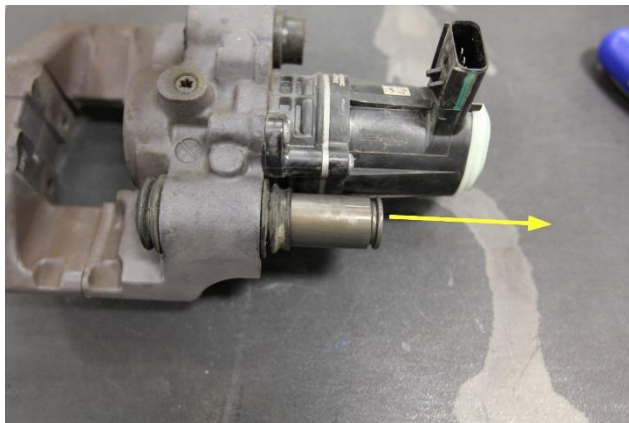

Figure 24
34. Move the lower sliding pin back into the LH parking brake caliper, use a pick or tiny screwdriver to release the inner boot of the lower sliding pin, and then move the pin partially inboard of the caliper (Figure 24).